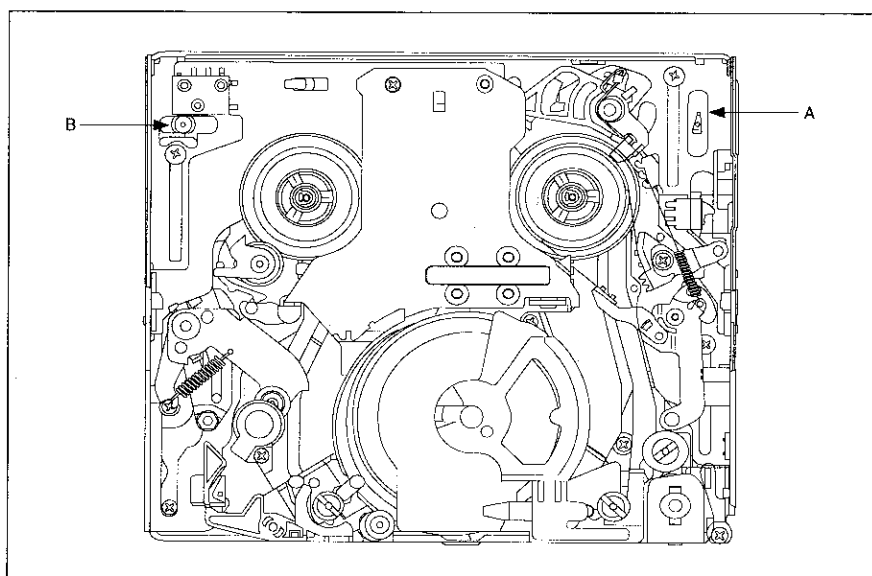

Figure 1
- (1) Remove the cassette control ass'y.
- (2) Taking due care not to let the master plane touch the tape running areas such as the drum and the guide rollers, position the master plane so that the two guides (A and B in the figure 1) are set in the holes of master plane, then properly set it in the mechanism.